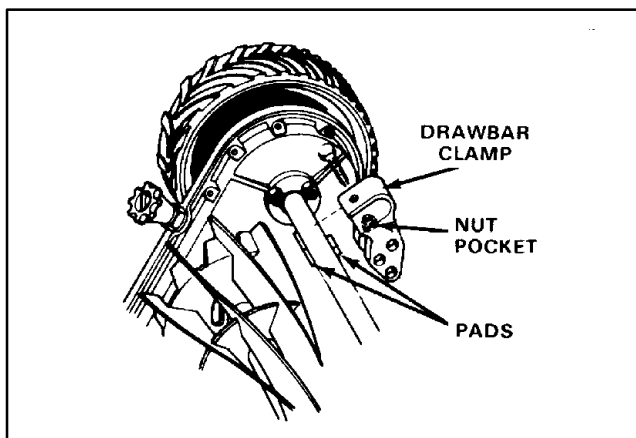

Figure 3
**Note** If Spartan mowers are to be attached, drawbar clamps, part no. 5-1090 and mounting fasteners will be required to mount drawbar to cross tube of mower (Fig. 3). Contact your local Authorized Toro Distributor to order parts or for assistance.